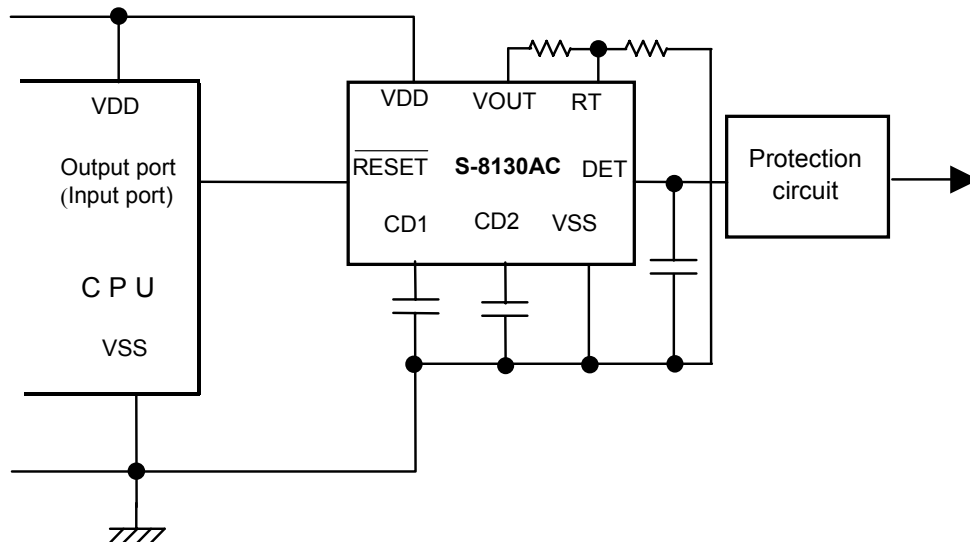

Figure 4
- (1) Since the S-8130AC has a voltage detector inside, control for the  $\overline{\text{RESET}}$  pin is not necessary to activate the circuit as seen in **Figure 4**. In this case the  $\overline{\text{RESET}}$  pin should be open.
- (2) The current which is provided to the resistances from the VOUT pin should be less than 1 mA.
- (3) A capacitor of around 1  $\mu\text{F}$  should be connected to the DET pin to prevent malfunction caused by a noise due to the power on.
- (4) Do not apply an electrostatic discharge to this IC that exceeds the performance ratings of the built-in electrostatic protection circuit.